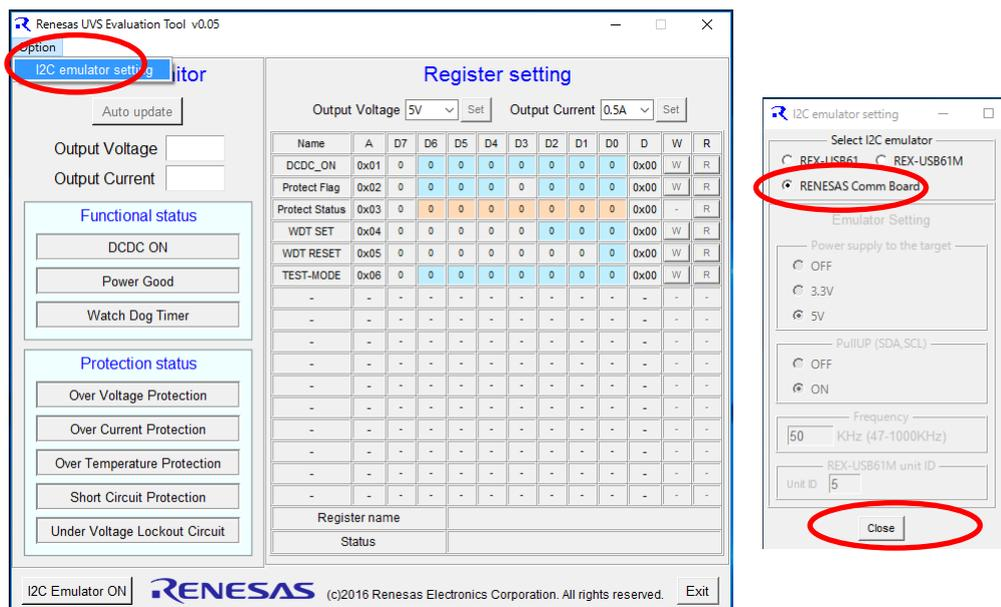

Figure 1.8 Initial setting screen of control tool
- The tool starts up when executing "Renesas_UVS_Eva_Tool.exe" in the unzipped folder (Figure 1.8).
- Select "RENESAS Common Board" on the displayed I2C Emulator, and select "Close" to complete the preparation (Figure 1.8).